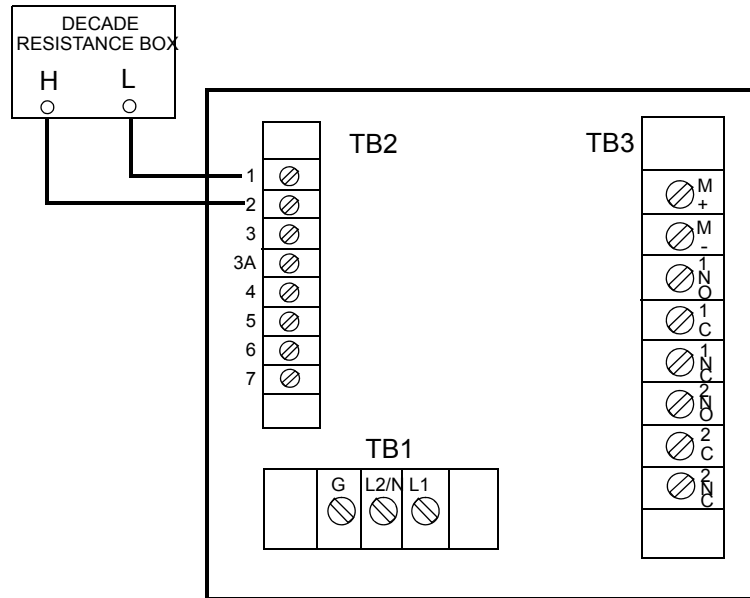

Figure 20. Decade Box Connections
1. Connect a 100 Ω , precision resistor between Terminals 1 and 2. See Figure 20.
9. Replace the 100 Ω , resistor with a 150 Ω , precision resistor. See Figure 20.
12. Replace the 150 Ω resistor with a 200 Ω , precision resistor. See Figure 20.